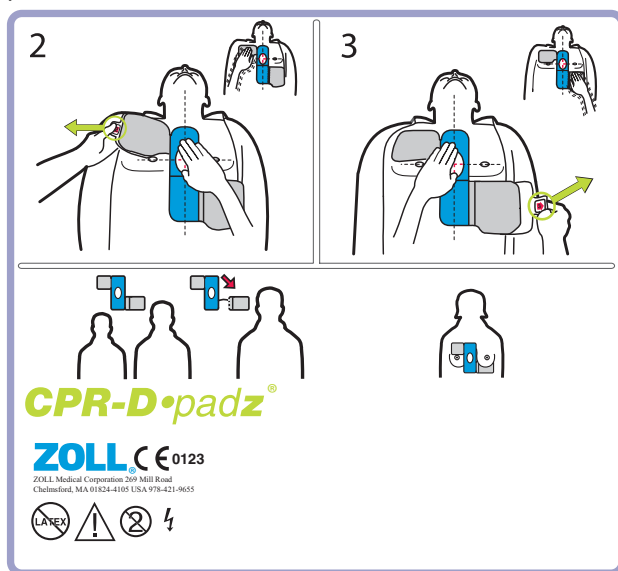

Figure 5: Placement of CPR-D-padz
1. Tear open the electrode package and unfold the electrodes. Place the electrodes on the victim according to the graphics on the package (see Figure 5).
NOTE If the victim is large or there is a need to place the electrode under a breast, you may need to tear away the lower pad at the perforated line (see Figure 5) and extend the pad. Place the pad slightly to the victim's left and below the victim's left breast.